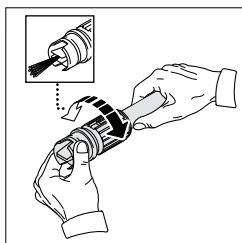

Fig. 15
- Take off the adjustable lance. Rotate the nozzle on the adjustable lance to the narrow stream setting which opens up the fan blades (Fig. 15).